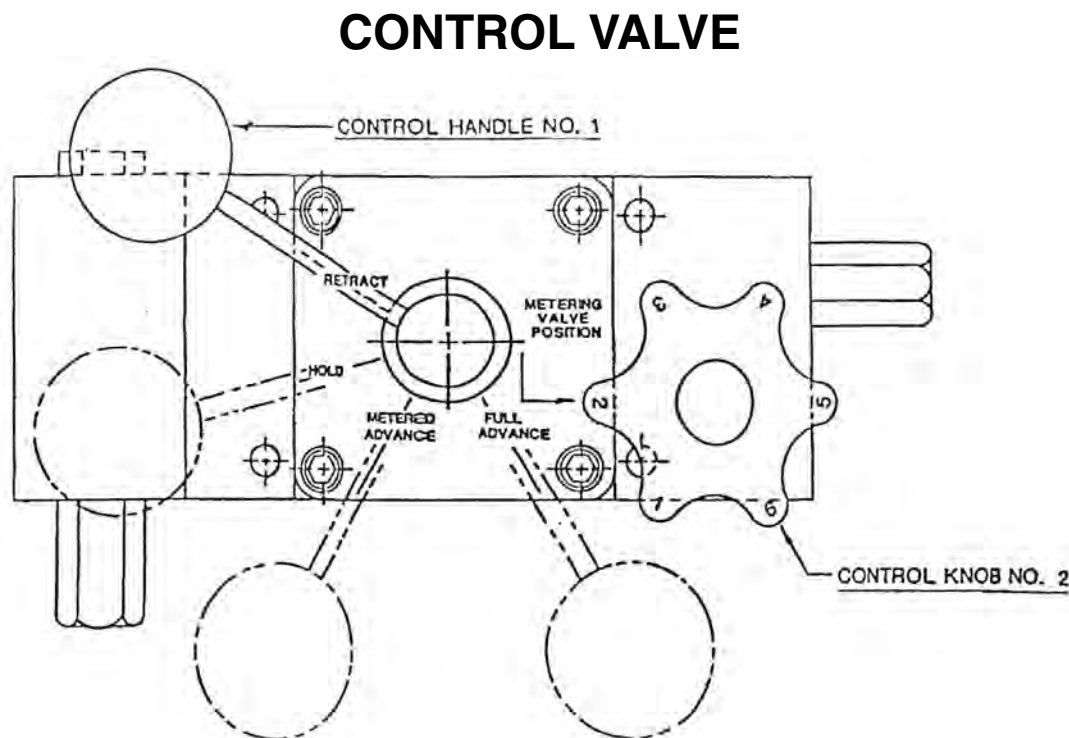

Figure 1
Placing Control Handle No.1 (see Figure 1) into the metered advance position allows the operator to adjust the rate of loading through the use of Control Knob No. 2. To increase the rate of loading, turn Knob No. 2 counter-clockwise. To decrease the rate of loading, turn Knob No. 2 clockwise. **CAUTION: Do not over-tighten Control Knob No. 2.**
Placing Control Handle No. 1 into the hold position (see Figure 1) stops the loading of the specimen and holds the pressure on the specimen at that point.
6.5 Figure 1: Control Valve